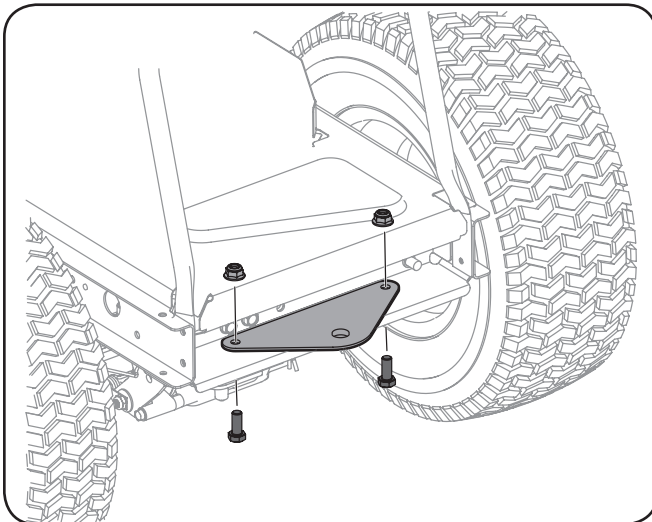

Figure 3-11
1. Remove the factory installed hitch plate mounting hardware located on the rear of the tractor. See Figure 3-11.
2. Position the hitch plate, packed with the loose parts, with the flat side up as shown in Figure 3-11. Secure using the two bolts and hex nuts previously removed.